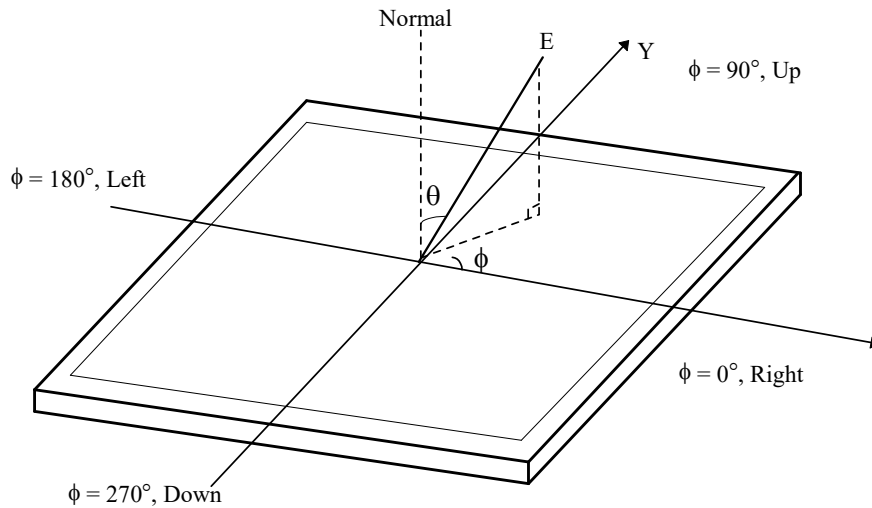

FIG.4-4 Viewing Angle
5) **Viewing Angle** is the angle at which the contrast ratio is greater than 10. The angles are determined for the horizontal or x axis and the vertical or y axis with respect to the z axis which is normal to the LCD surface. For more information see FIG.4-4. **(By PR880)**